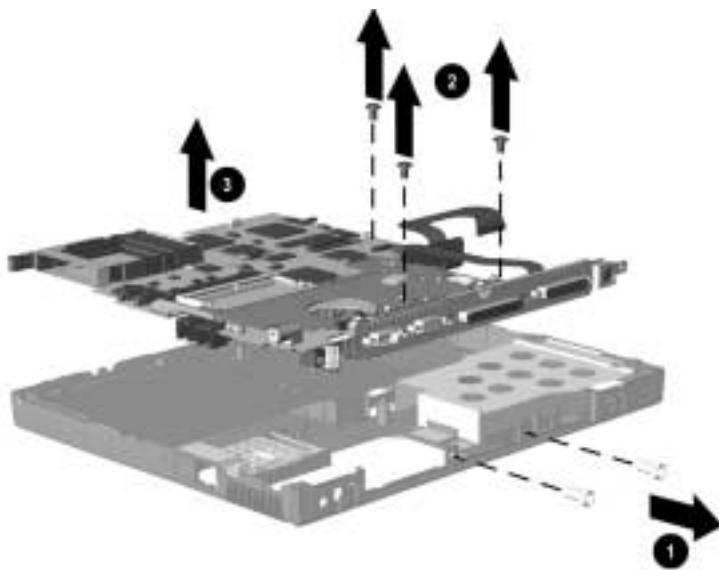

Figure 5-25. Removing the System Board
5. Remove the two bushing guides **1** that secure the system board to the I/O bracket (Figure 5-25).